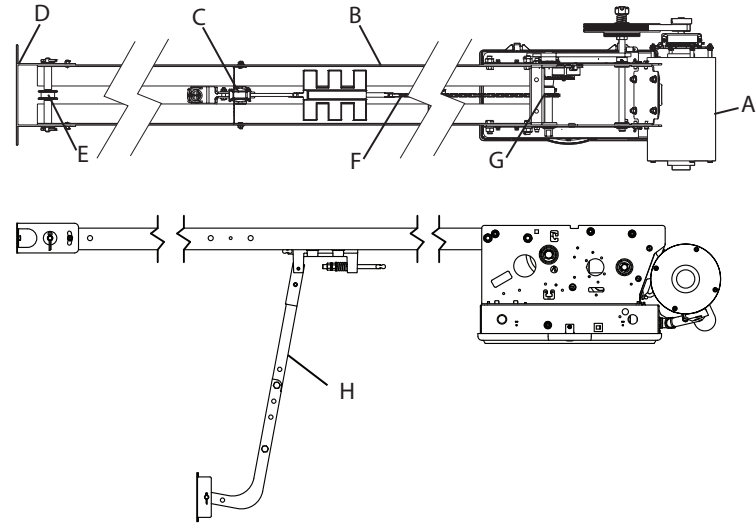

Figure 1
The Model RSX® Drawbar Operator consists of the Power Unit (A), Drawbar Track (B), Chain Guides (C), Front Spreader (D), Front Idler Pulley (E), Drive Chain (F), Drive Sprocket (G), and Drawbar Arm (H). The Drawbar track length, chain length and quantity of chain guides will vary by door heights. **Fig. 1.**